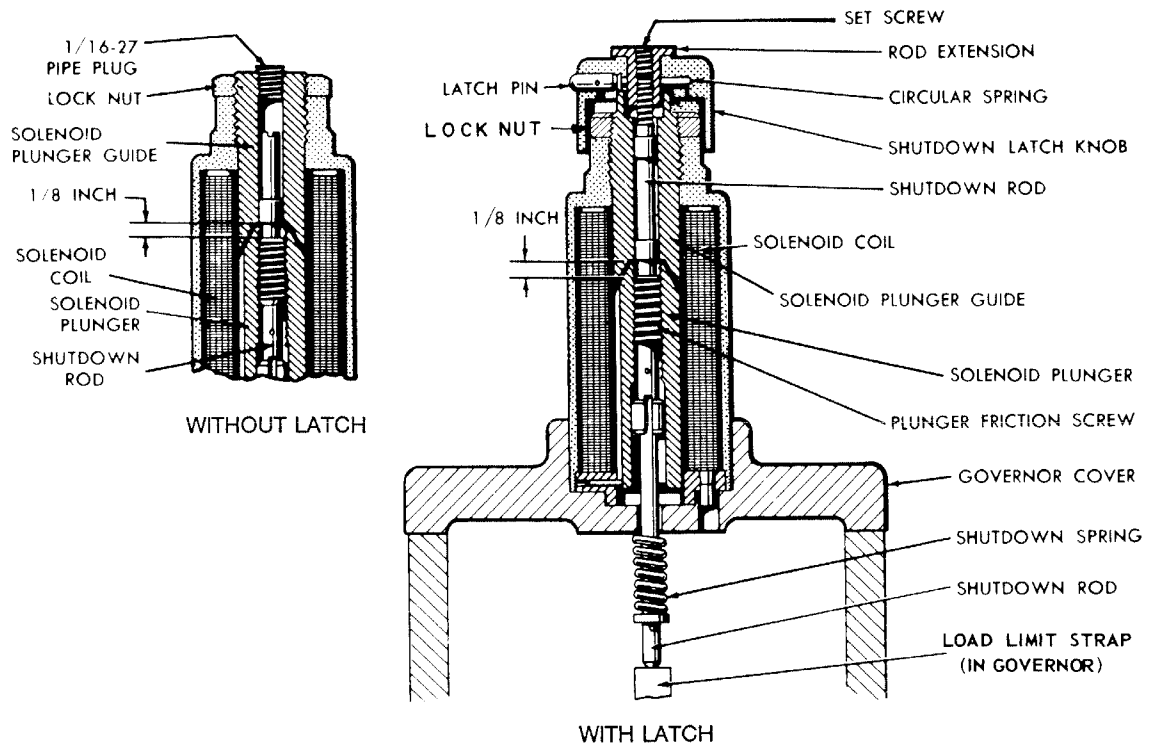

Figure 1. De-Energize to Shut Down Models
The de-energize to shut down models shown in Figures 1 and 2 will shut the engine down on loss of current to the solenoid. The solenoid plunger moves up to allow the engine to run. To start an engine when no current is available, lift the solenoid plunger manually by means of the shutdown-latch knob (see Figure 1). As it approaches the top of its stroke, the lock pin may be pressed in to latch the shutdown-latch knob just below its upper position. This permits starting and running the engine. *Operating with the latch pin holding the solenoid at the top of its stroke eliminates the possibility of using the solenoid to shut down the engine.*
1. Position the shutdown rod assembly in the solenoid plunger with the end of the plunger friction screw 3 mm (1/8 inch) inside the solenoid plunger nose as shown in Figure 1. This adjustment is necessary only when the shutdown device has been disassembled for cleaning or replacing parts. New assemblies sent from the factory will have this adjustment completed.